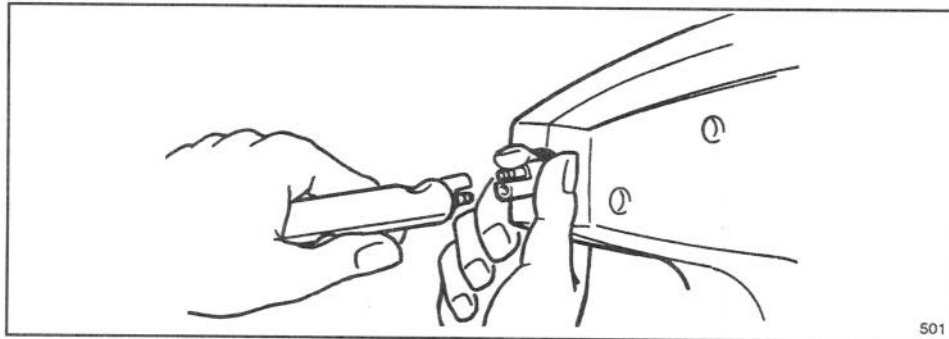

Figure 3
3. Grasp handle tube firmly with one hand and the connector plug extending out of housing with the other (Fig. 3).